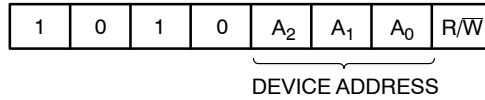

Figure 3. Slave Address Bits
The Master initiates data transfer by creating a START condition on the bus. The Master then broadcasts an 8-bit serial Slave address. The first 4 bits of the Slave address are set to 1010, for normal Read/Write operations (Figure 3). The next 3 bits, A2, A1 and A0, select one of 8 possible Slave devices. The last bit, R/W, specifies whether a Read (1) or Write (0) operation is to be performed.